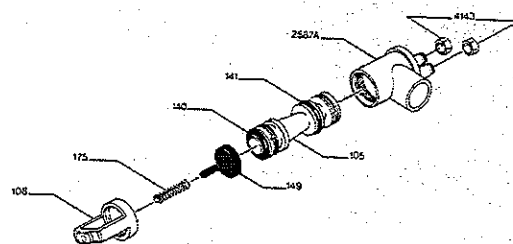

FIGURE 30
- Insure that the venturi jet is free of any obstructions, then hand tighten jet cage onto the venturi body (Fig. 30).